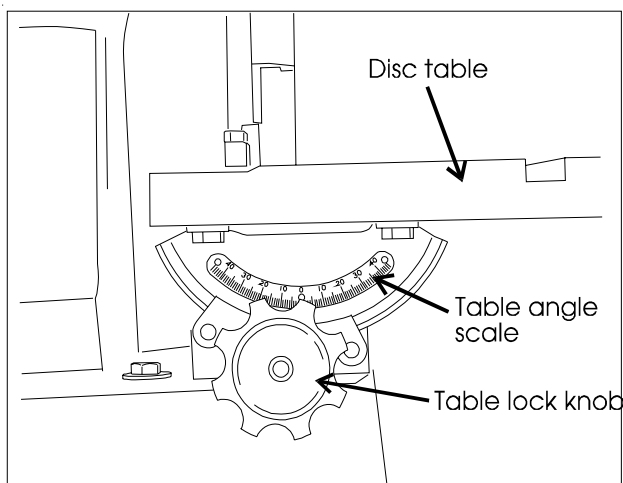

Figure 4: Disc sander table adjustment
1. Unlock the two locking knobs underneath the table at each end. (See Figure 4.)